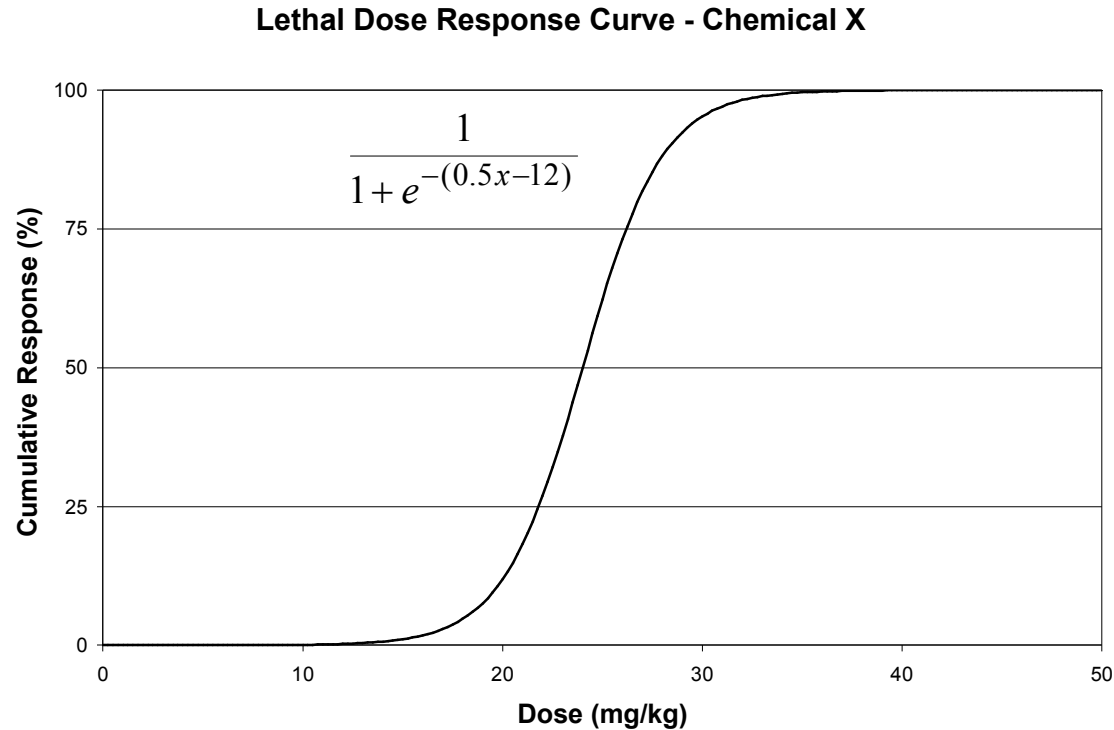

Fig. 2
- The lethal dose response curve of Chemical X is shown in Fig 2